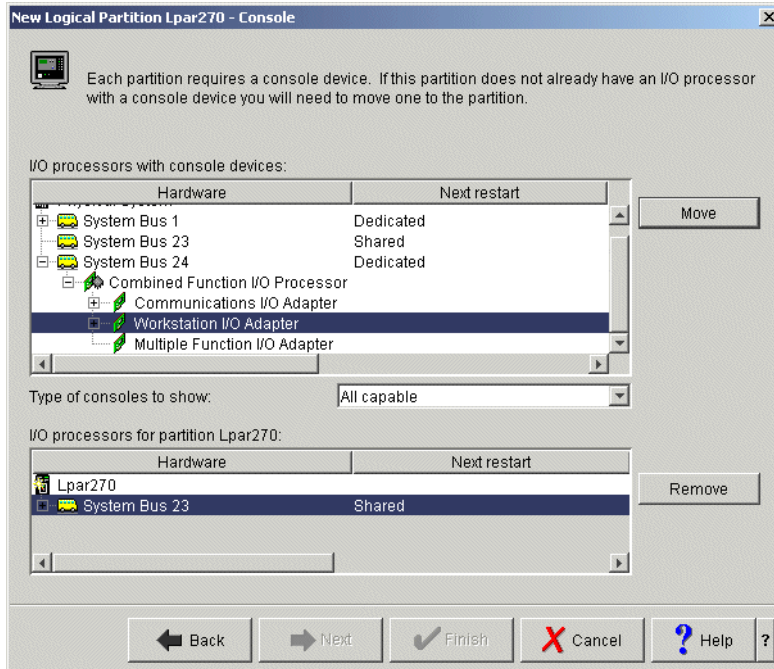

Figure 4-22 New Logical Partition - Console window
18. The New Logical Partition - Console window appears as shown in Figure 4-22. Select the appropriate console IOP and click **Move**.